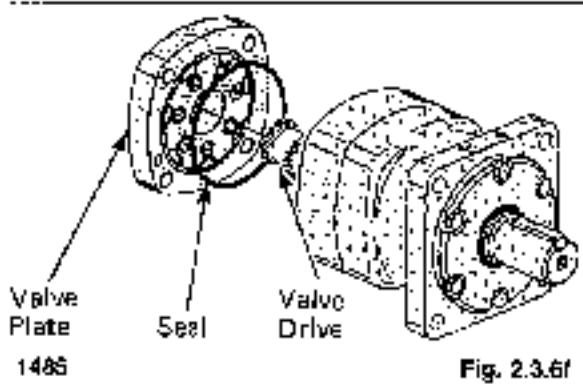

Fig. 2.3.6f
6. Remove the valve plate, seal and valve drive (fig. 2.3.6f).